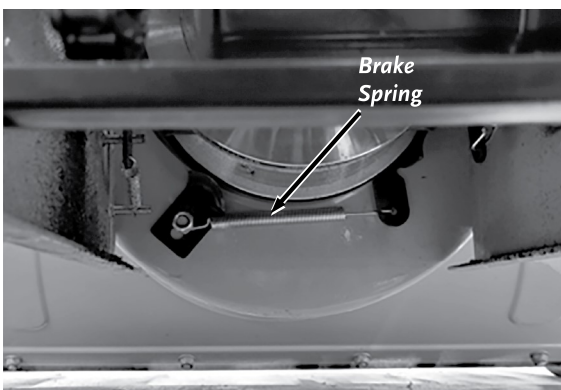

Figure 42
5. Remove the Brake Spring from bottom right side of the Frame so the Brake Pad will come away from the Auger pulley, making room for Belt removal (**Figure 42**).